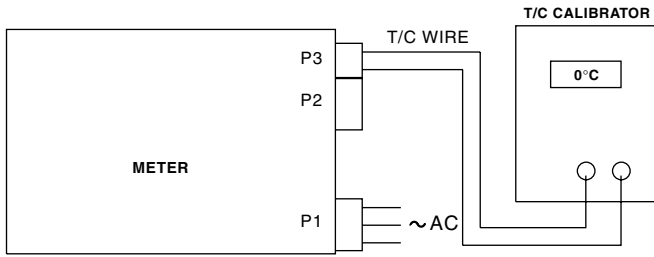

Figure 4-2. Calibration a Thermocouple Calibrate
2. Connect the thermocouple calibrator output signal to the thermocouple input connector P3 as shown in Figure 4-2. Connect the negative (red) thermocouple wire to connector P3, Pin 1. Connect the positive thermocouple wire to connector P3, Pin 2. Be sure to observe polarity and use the correct thermocouple wire (Type J wire for Type J meter).